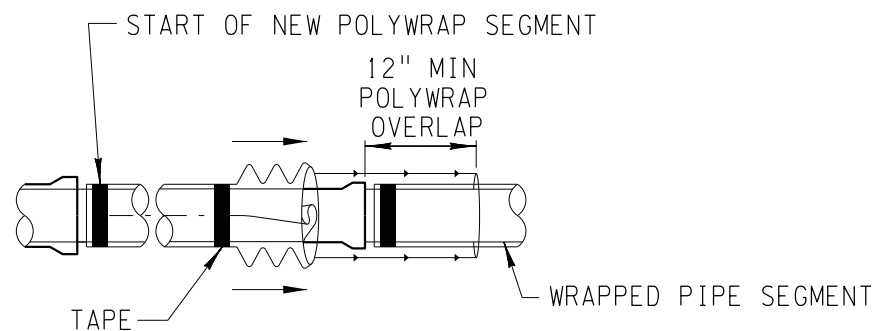

FIGURE 3 - POLYWRAP INSTALLATION PROCEDURE AT JOINT
5. SLIP THE END OF THE POLYWRAP SECTION FROM THE PREVIOUS PIPE (BELL) OVER THE NEW PIPE (SPIGOT) AS SHOWN IN FIGURE 3, AND SECURE IN PLACE WITH CIRCUMFERENTIAL TAPE.